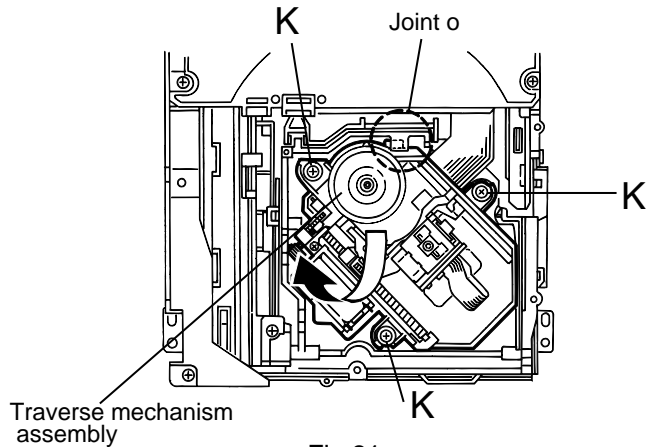

Fig.21
**■ Removing the traverse mechanism assembly (See Fig.21)**